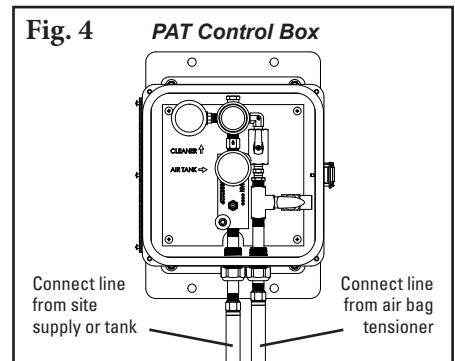

Fig. 4
- Set the blade tension.** With the parts supplied, attach a line to each air bag and run the lines to the outlet side of the control box (Fig. 4).